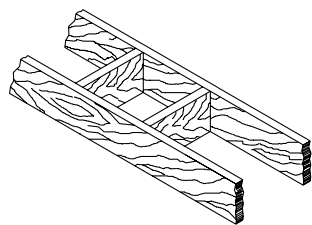

Figure 21 - Roof Framing
1. Cut and frame the holes in the ceiling, floor and roof where the chimney will pass (see **Figure 21**). Use a plumb-bob to line up the center of the holes. The sizes are indicated in **Table 2** for the floor and ceiling holes and **Table 3 (Pagex 17)** for the roof holes.